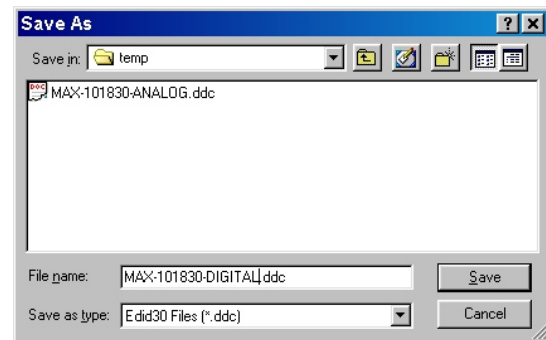

Fig. 43
1. Click (Save) icon (or click "file"-> "save as") from the tool bar and give a file name as shown in Fig. 43.